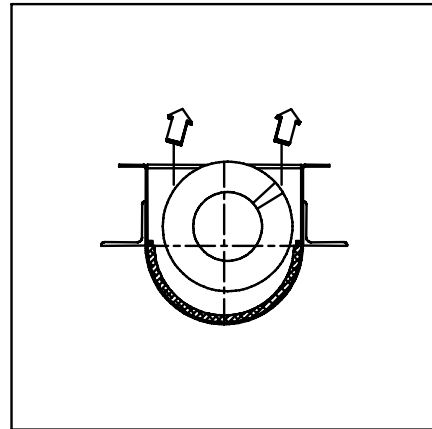

Figure 5.2b - Lifting the Spiral
3. Remove the spiral from the trough or lift it to increase accessibility (see Fig 5.2b).